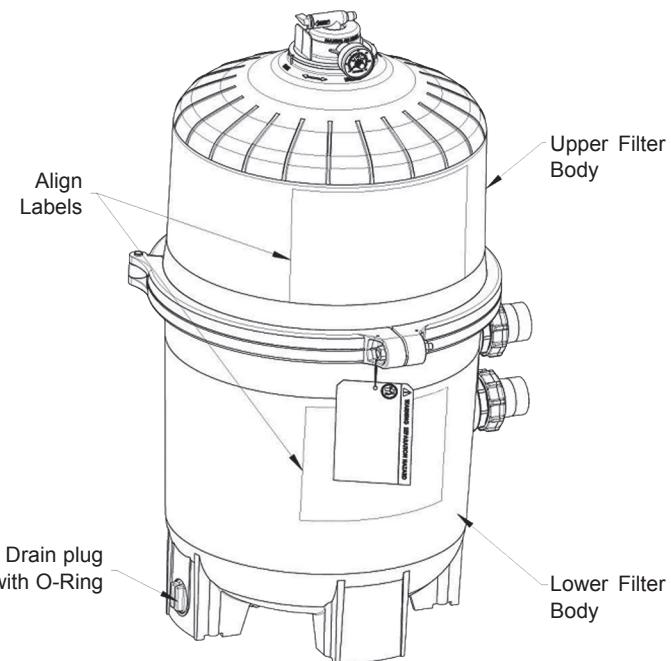

Figure 5
2. Place the upper filter body on the Hayward DEX242ZZ2 metal reinforced seal and lower filter body in a position which allows all operation and safety labels to be clearly visible and the upper body to be centered on the lower filter body. Press down firmly and evenly to set the upper filter body. (Fig 5)
3. Replace the filter clamp around the upper and lower filter bodies. Hold the clamp ends to position the clamp on the filter bodies with the clamp ends adjacent to the safety and operation labels on the filter bodies. (Fig 5)